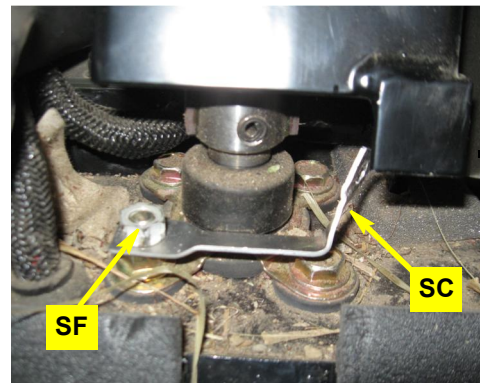

Figure 3a: Installed switch bracket
- a. Using hardware **SF** install switch bracket **SC** on the front right stud of the lower steering shaft support. Rework the bend and twists in bracket **SC** as required to align the switch hole with the center of one of the magnets (Figure 3a).